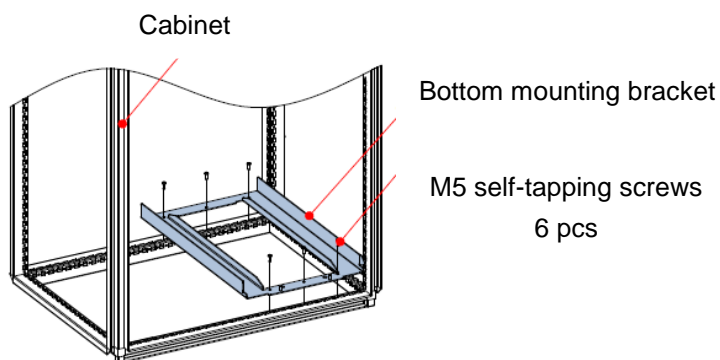

Figure 3-14 Bottom mounting bracket installation diagram
- ② Use 6 M5 self-tapping screws to fix the bottom mounting bracket onto the cabinet frame base, as shown in Figure 3-14. (refer to section 2.4.4 for the bottom mounting bracket dimensions)